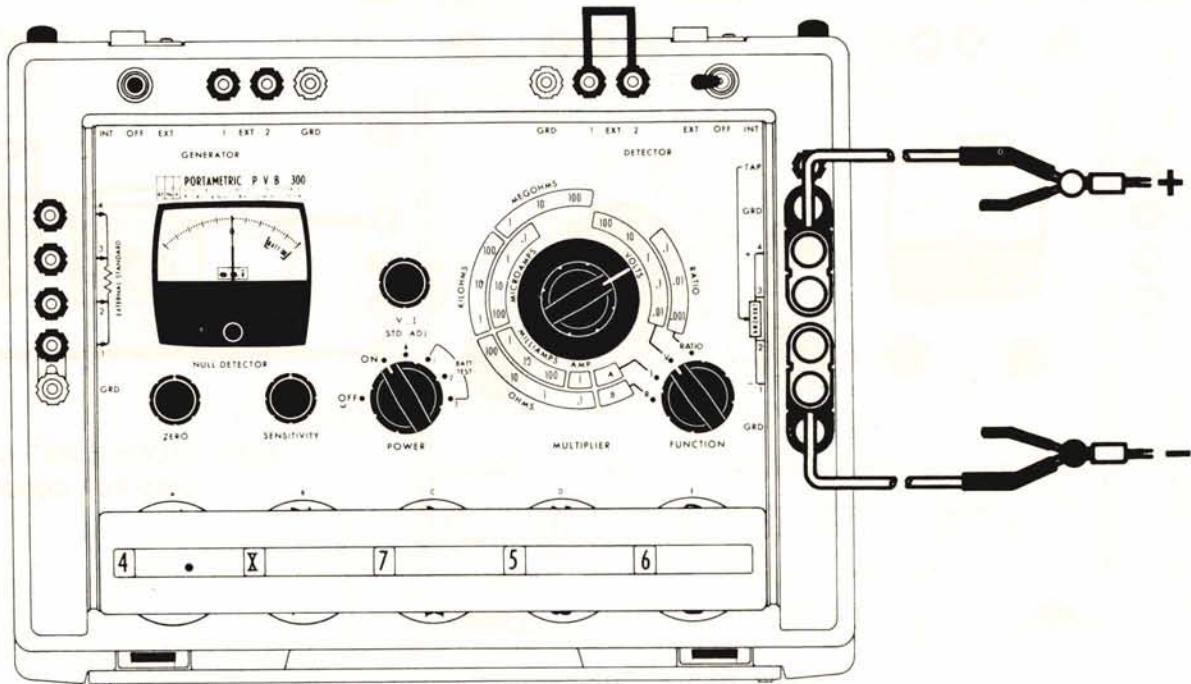

Figure 2.5 - Standard Voltage Source
- 11) Connect a test lead between EXT DETECTOR terminals 1 and 2. The output voltage positive terminal is UNKNOWN terminal 4, and the negative terminal is UNKNOWN terminal 1. Connect outputs as required, Kelvin Klips can be used. See Figure 2.5 for connections.